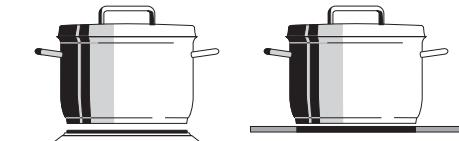

fig. 11
- The diameter of the base of the pan should cover the zone completely (fig. 11).